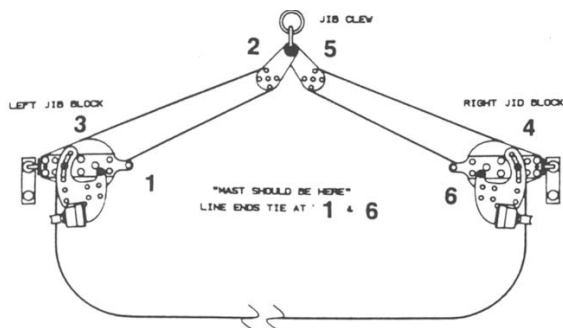

FIGURE 42
22.6 Attach the jib clew blocks to the jib clew plate using a shackle. (FIGURE 42)